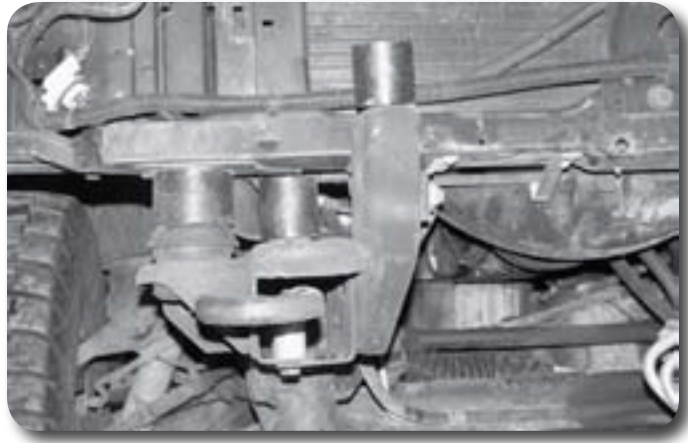

Figure35
67. Set four 2" x 2" body blocks on the four front bumper mounting points **Figure 35**. Set the front bumper up to the mounts and mark where the front valance needs to be trimmed to clear the frame. The valance may not require trimming in some cases.